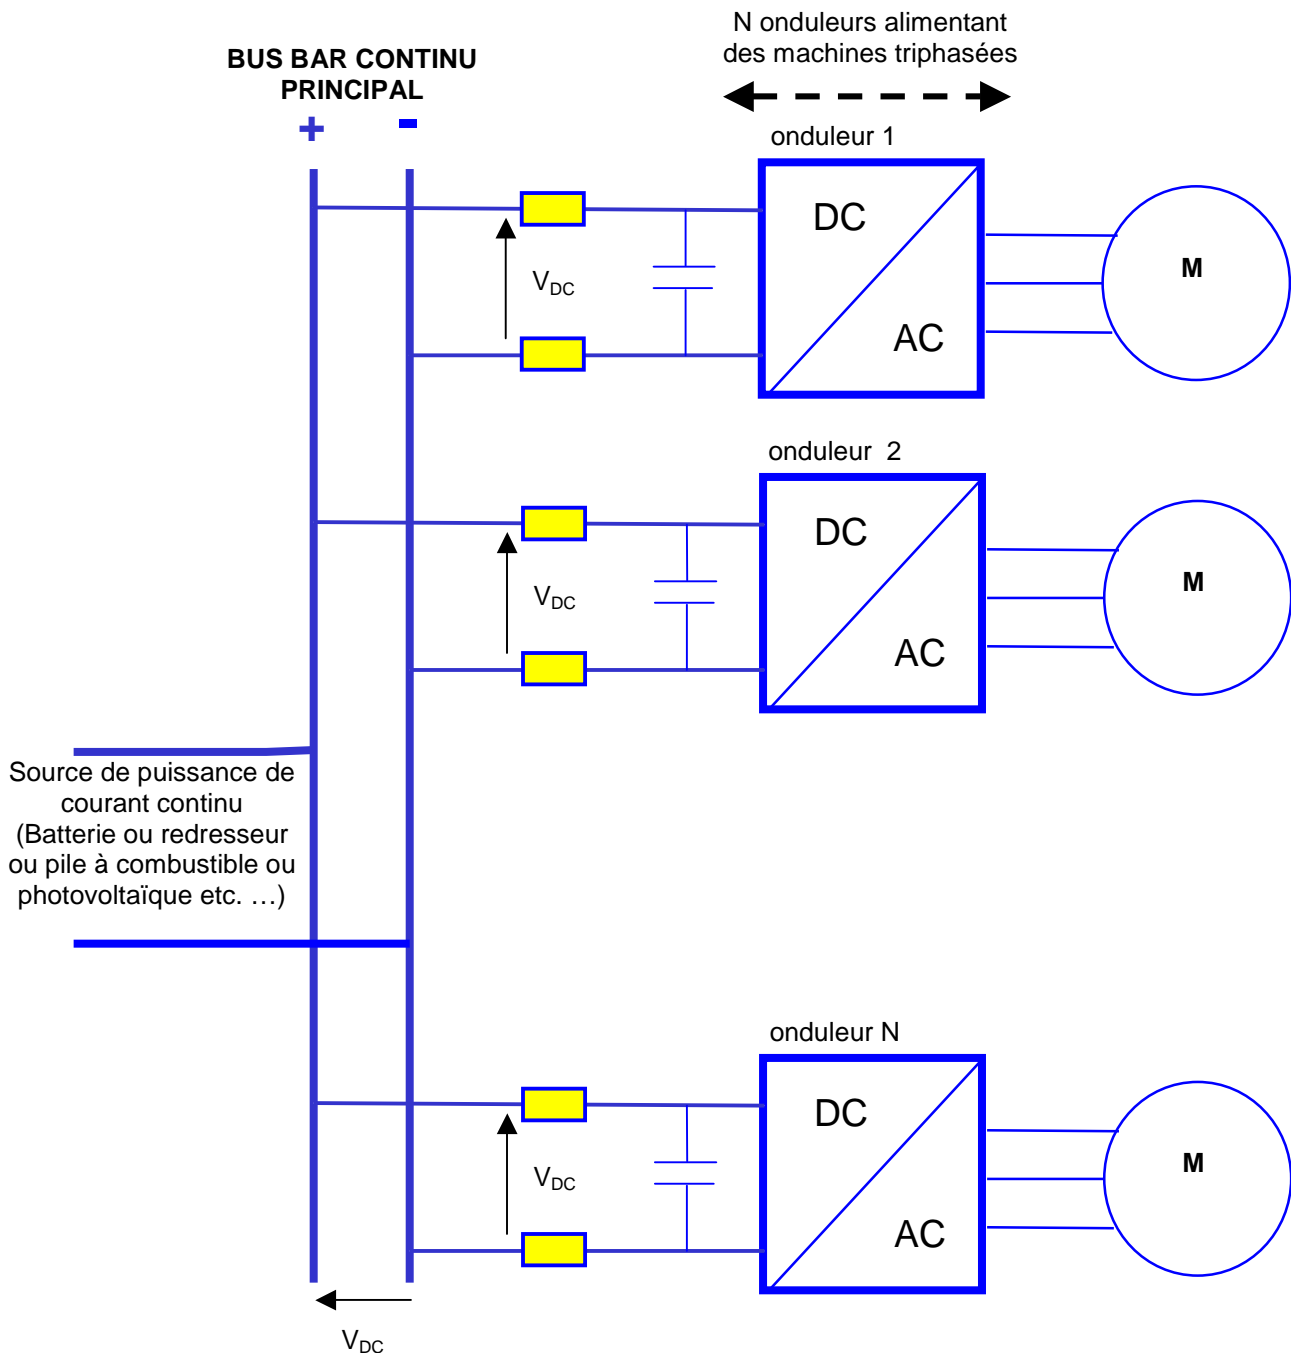

Figure 27
- fuses in the feeder of each inverter (figure 27)